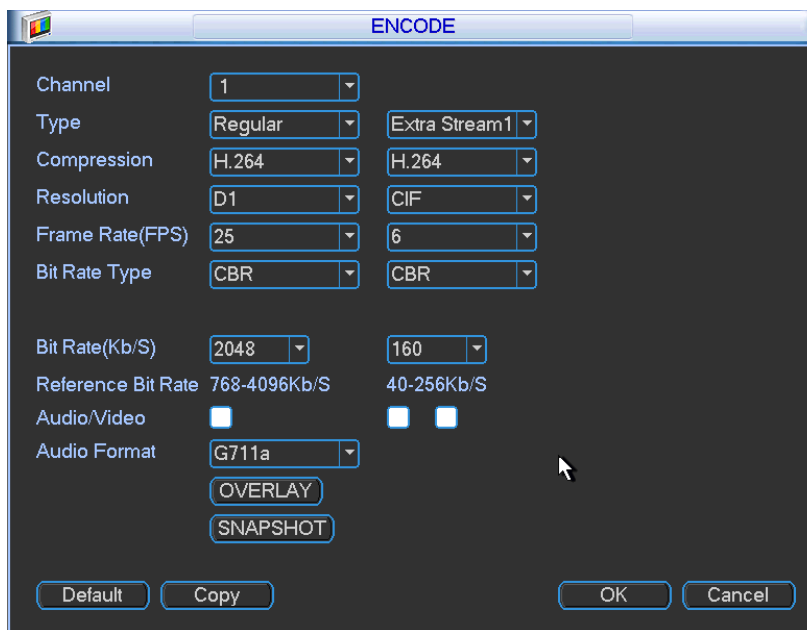
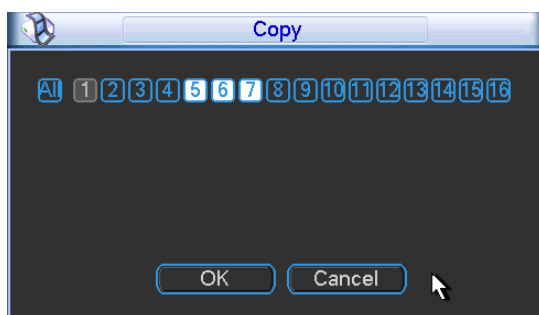
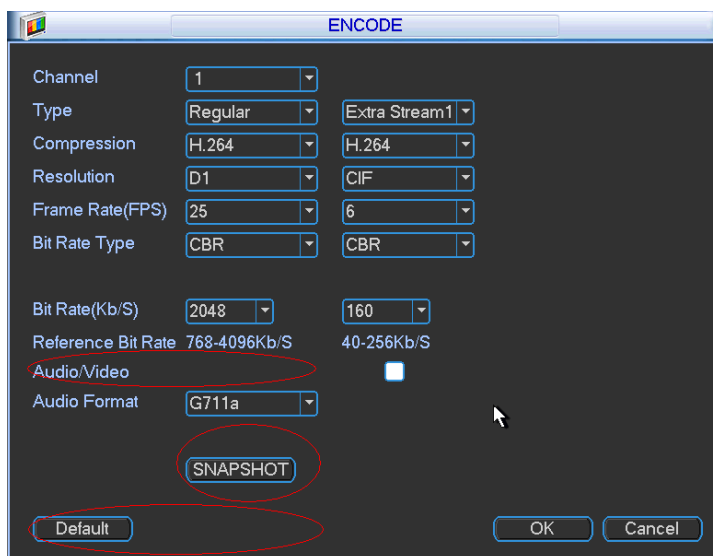

Figure 5-8
Figure 5-10
Figure 5-11
Encode setting includes the following items. See Figure 5-8.
- ✂ Copy: After you complete the setup, you can click Copy button to copy current setup to other channel(s). You can see an interface is shown as in Figure 5-10. You can see current channel number is grey. Please check the number to select the channel or you can check the box ALL. Please click the OK button in Figure 5-10 and Figure 5-8 respectively to complete the setup. Please note, once you check the All box, you set same encode setup for all channels. Audio/video enable box, overlay button and the copy button is shield. See Figure 5-11.